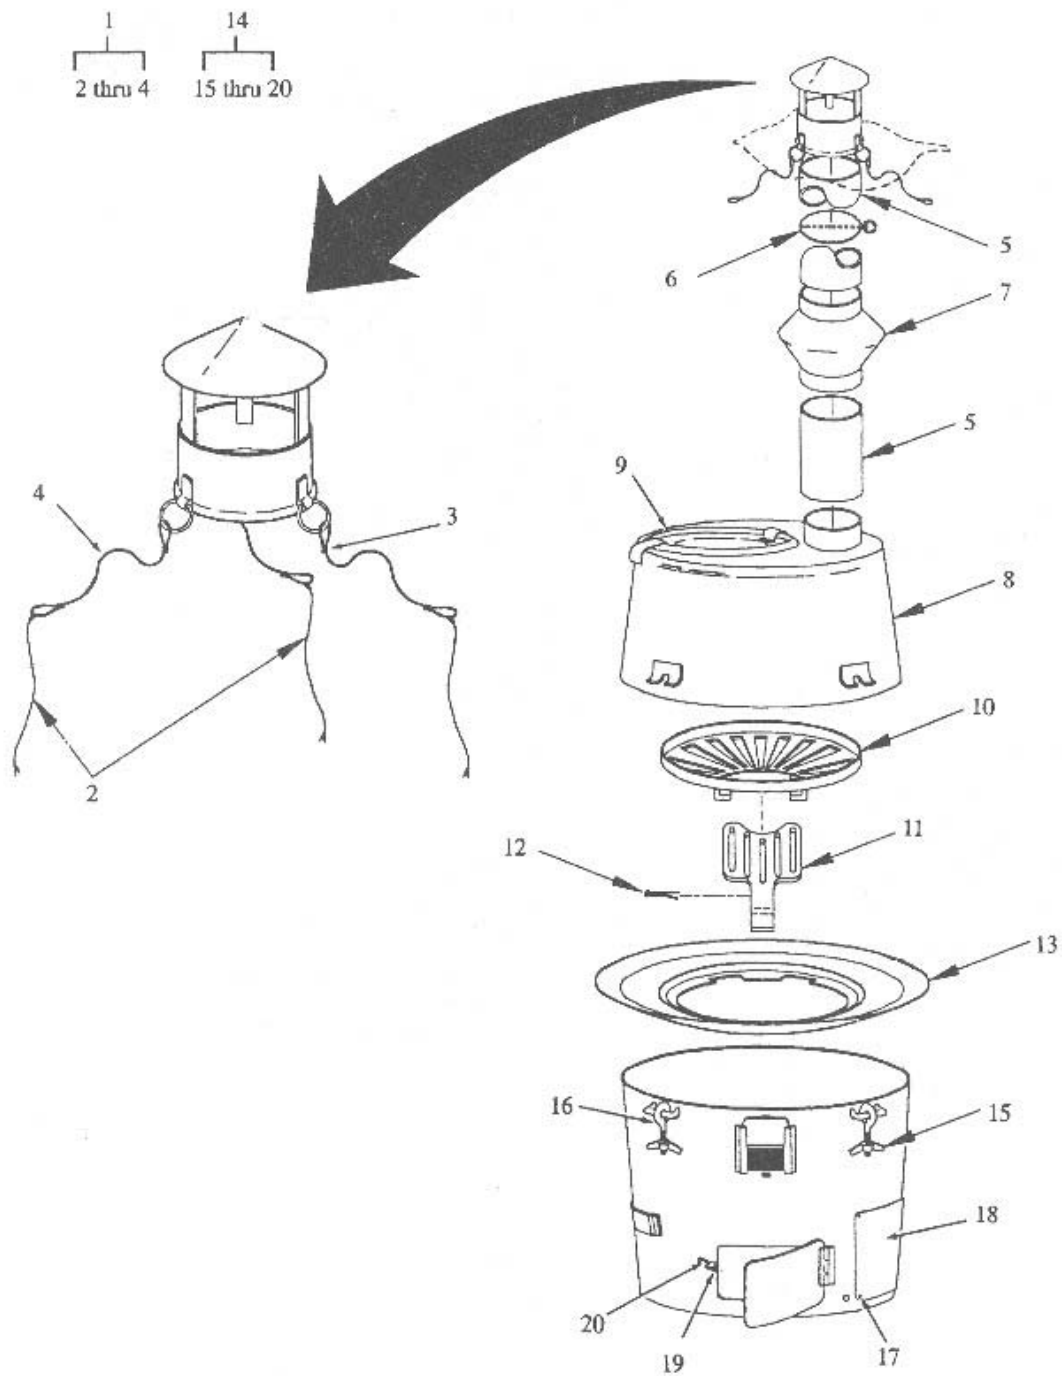
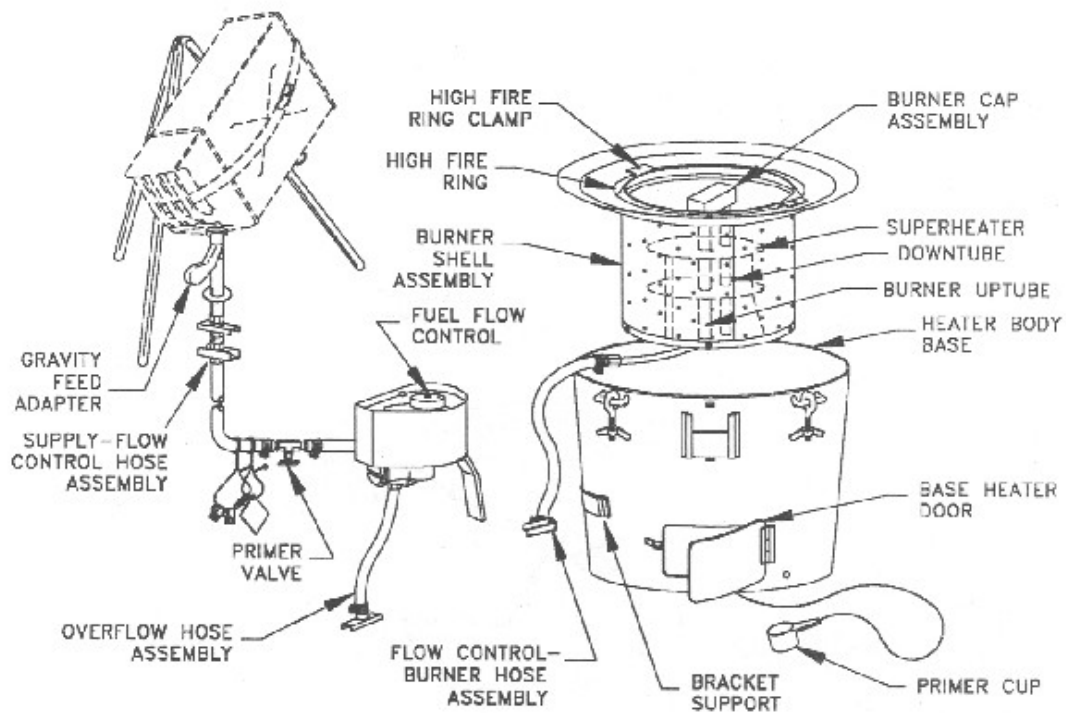

Figure 3-1
Figure 3-2
3. Assemble the Type 2 (Liquid Fuel H-45 space heater body (SEE Figure 3-2).
See Figure 3-1 And Figure 3-2